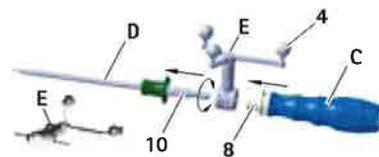

Fig. 6 Mounting the IGS Tool Star Unit and S4C handle (FW067R or FW165R) onto the S4C screwdriver
- Release locking sleeve B, see Fig. 6.